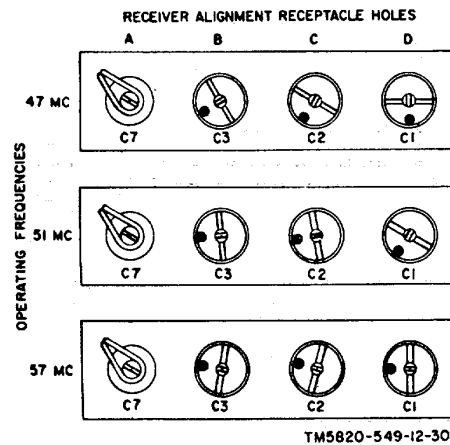

Figure 3-7. Receiving Set, Radio AN/PRR-9, approximate trimmer capacitor settings for alignment.
- c. Use the alignment tool from the ID-1189/PR lid to set the AN/PRR-9 capacitors through holes B, C, and D in the RECEIVER ALIGNMENT receptacle, according to the approximate settings for 47 megacycles (mc), 51 mc, or 57 mc shown in figure 3-7. For channel frequencies not shown, approximate the settings proportionately between those shown.